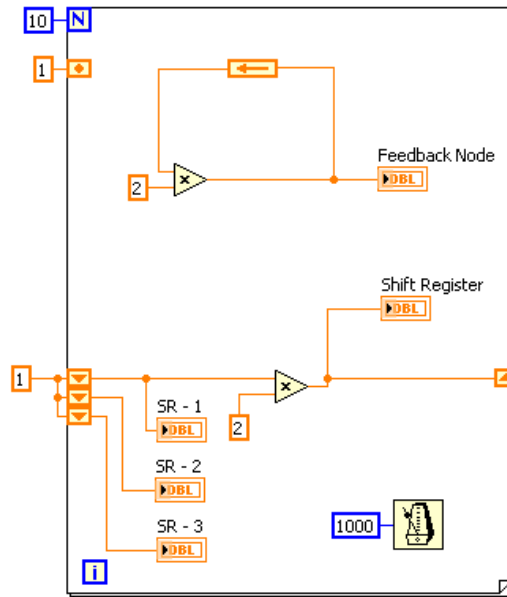

Figure 4.18
1. Revise the shift register to display the last three iterations of the For Loop data, as shown in Figure 4.18.